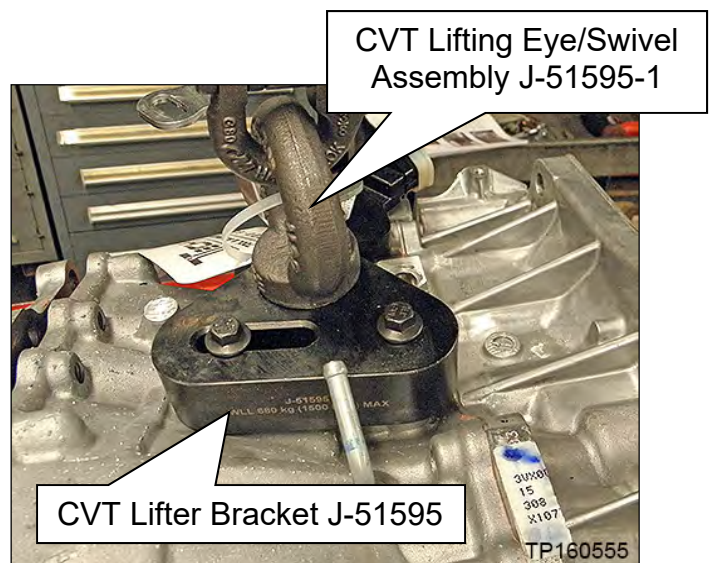
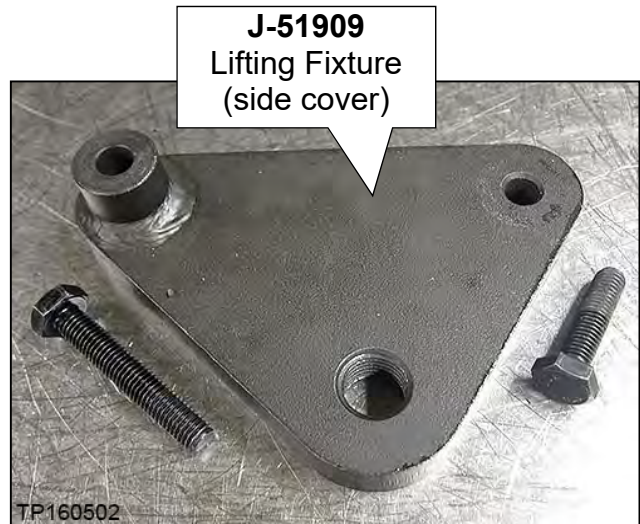
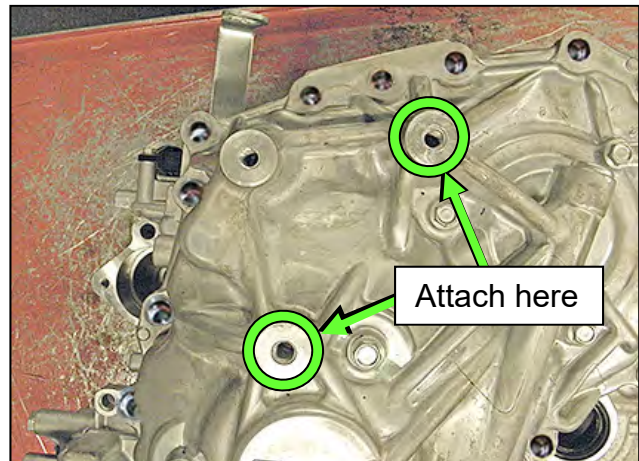

Figure 73
Figure 81
Figure 82
- CVT lifter bracket J-51595 and CVT Lifting Eye/Swivel Assembly J-51595-1 can be used for this step. See Figure 73.
58. Attach Lifting Fixture J-51909 (Figure 81) with eyelet from J-51595 (Figure 73) to the side cover at point shown in Figure 82.